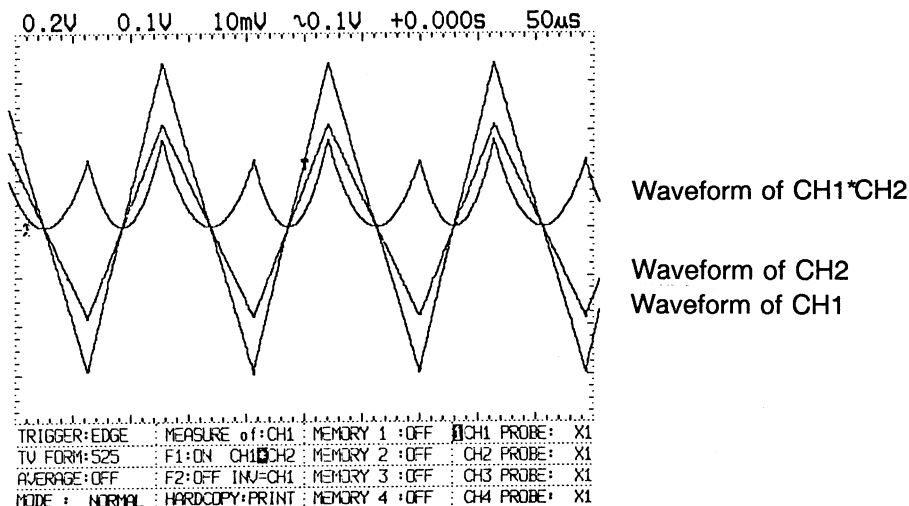

Fig. 6-33 Example of CH1*CH2 selected by operation 1 (F1)
(5) Display of multiplied waveform (*)
- An example of the CH1 input waveform * CH2 input waveform is shown in Fig. 6-33.